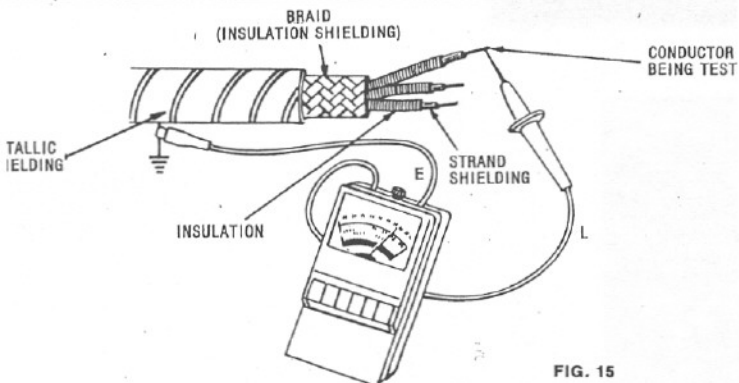

FIG. 15
4. Connect Mueller type insulated clip to ground (earth) side of the equipment being measured. Touch the long prod handle probe to the line side. See Fig. 15 and 16.